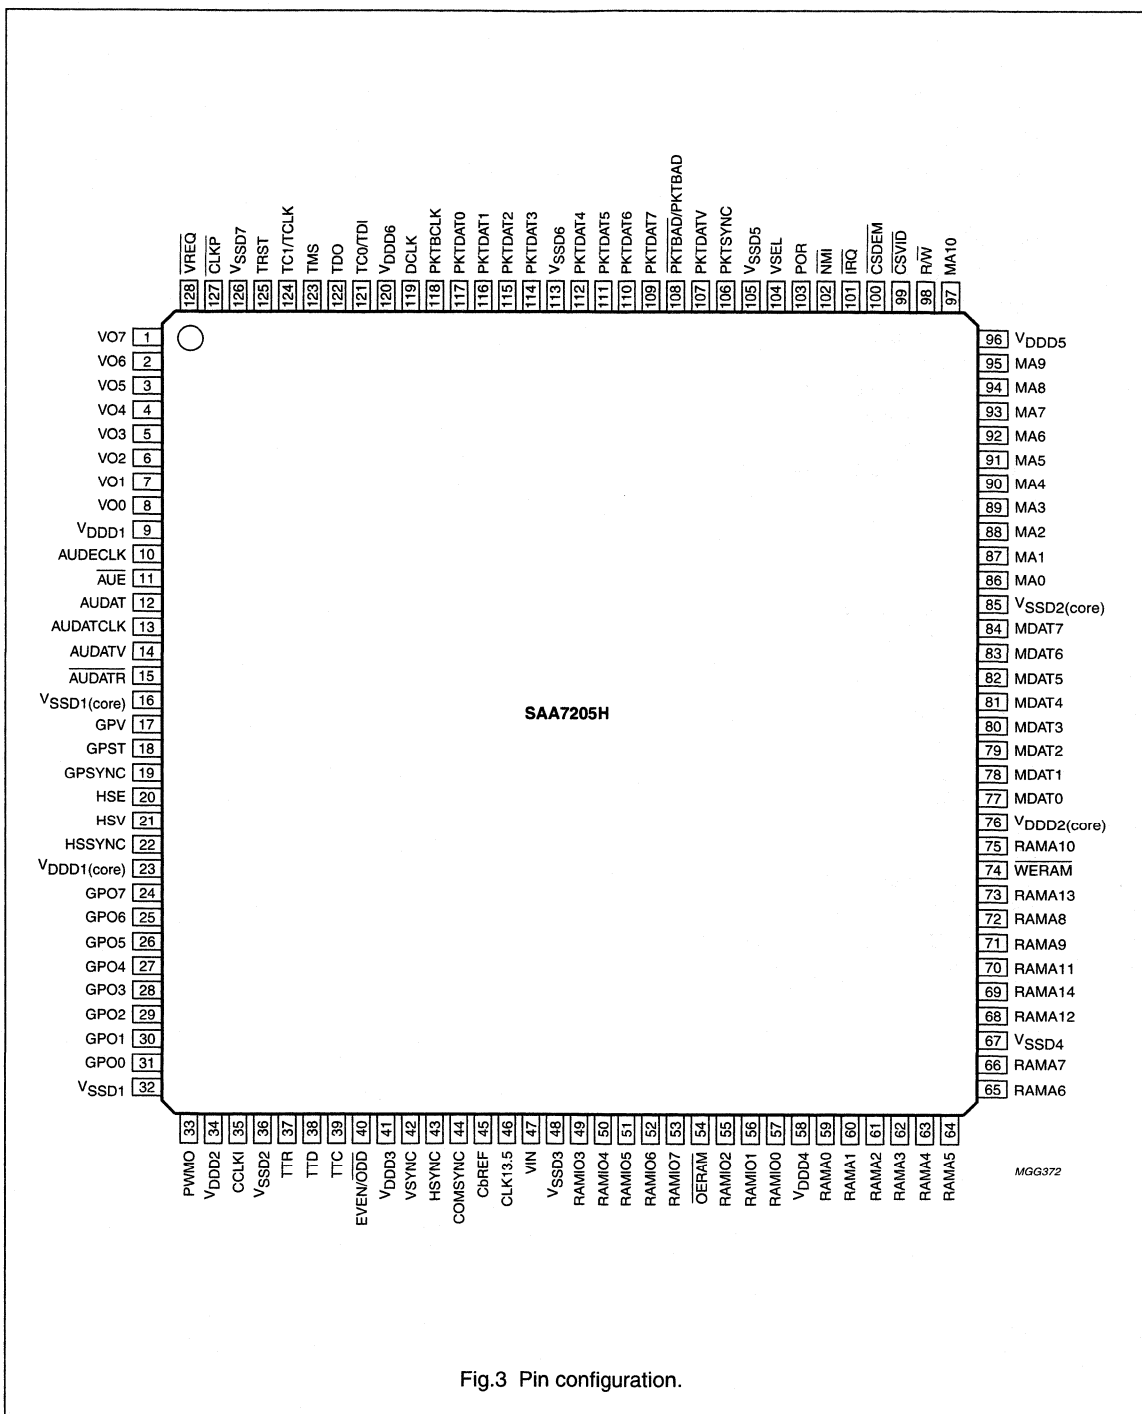

Fig.3 Pin configuration.
The SAA7206H (DVB compliant) is designed for use in MPEG-2 based digital TV receivers, incorporating conditional access filters. Such receivers are to be implemented in, for instance, a digital video broadcasting top set box, or an integrated digital TV receiver. An example of a demultiplexer/descrambler system configuration, containing a channel decoder module, a demultiplexer, a system controller and a conditional access system is shown in Fig.3.. The main function of the descrambler is to descramble the payloads of MPEG-2 TS packets or PES packets. In addition, the descrambler retrieves Conditional Access (CA) data [such as Entitlement Management Messages (EMM) and Entitlement Control Messages (ECM) etc.] from the stream and passes it to the system microcontroller for processing.